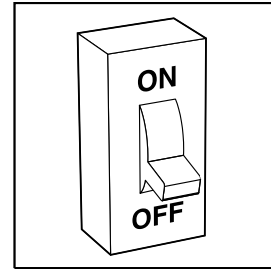

Fig. 6 - Turn Off Electrical Supply
- Remove** outer furnace door. (See Fig. 6.)